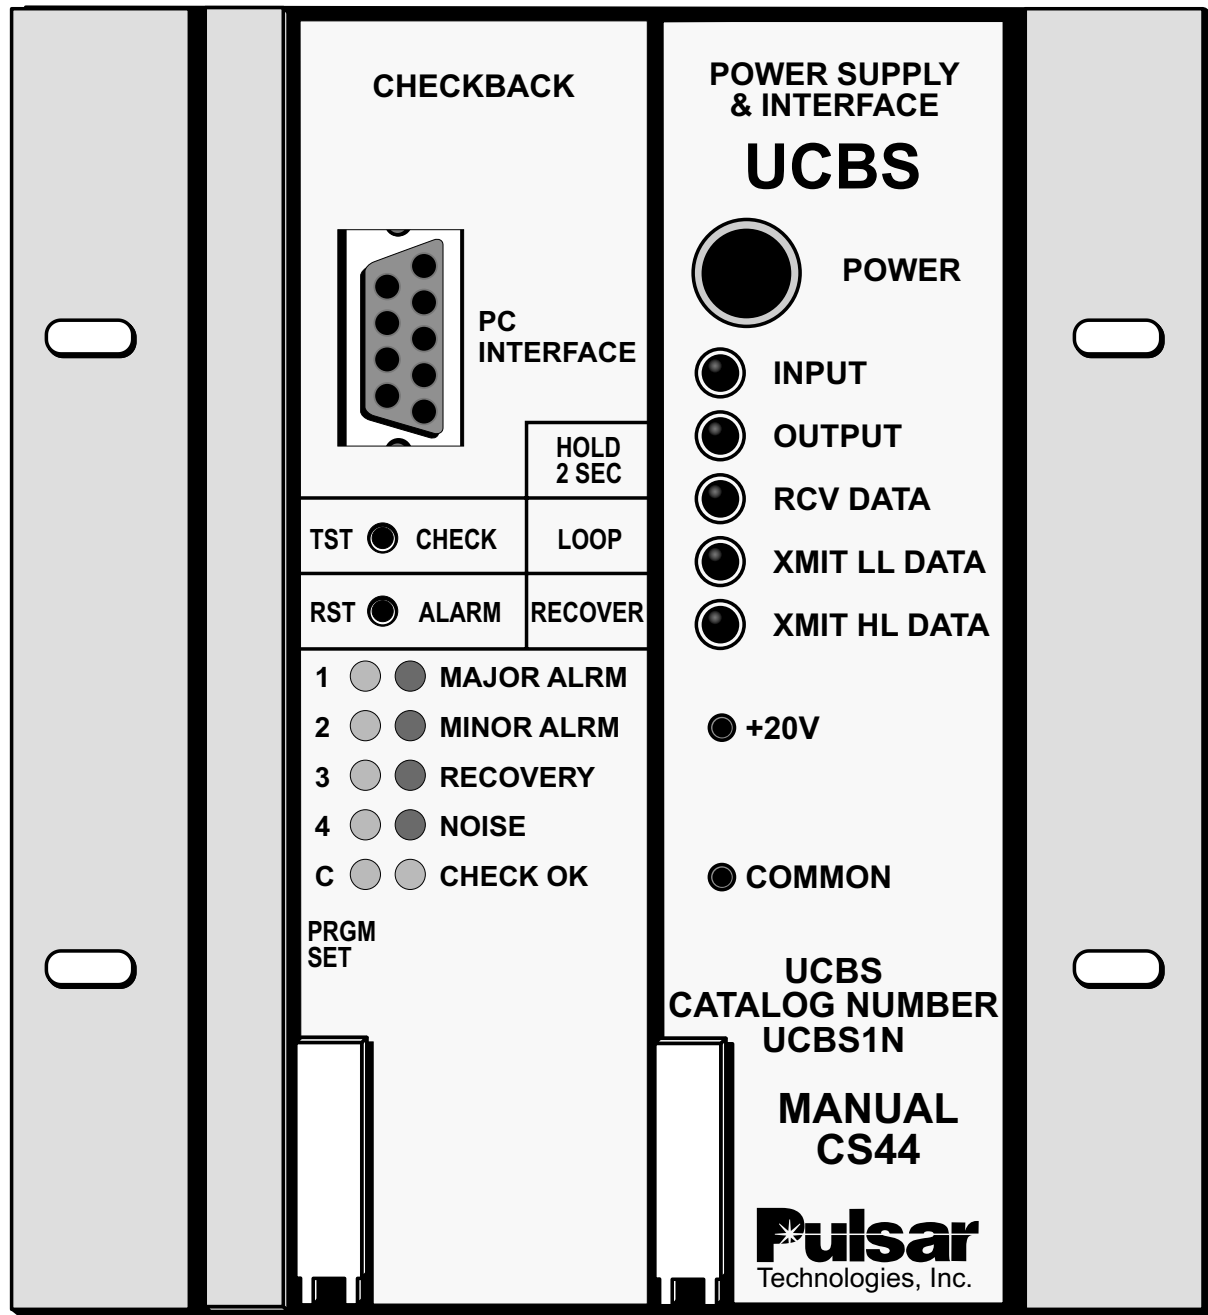

Figure 1-2. Universal Checkback Assembly (Front view).
- Chassis, 3-inch or 19-inch (see Figures 1-2, 1-4, 1-6, and 1-7 for the 3" chassis and Figures 1-5 and 1-8 for the 19" chassis)